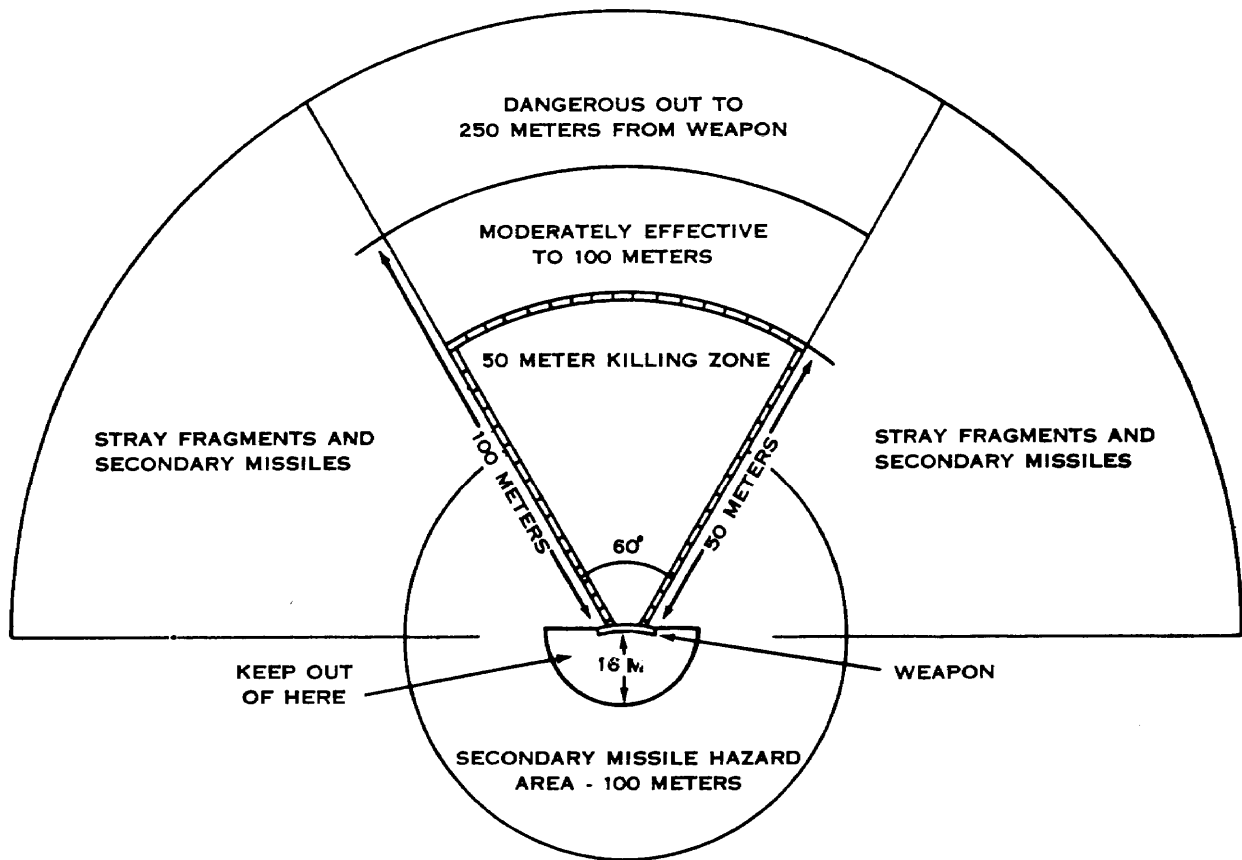

Figure 4. Danger radius and effects of the M18A1.
When detonated, the M18A1 mine will deliver spherical steel fragments over a 60° fan-shaped pattern that is 2 meters high and 50 meters wide at a range of 50 meters (fig. 4). These fragments are moderately effective up to a range of 100 meters and can travel up to 250 meters forward of the mine. The optimum effective range (the range at which the
*a. Danger From Fragments* (fig. 4). The danger area consists of a 180° fan with a radius of 250 meters centered in the direction of aim.
*b. Danger Area of Backblast and Secondary Missiles* (figs. 4 and 24). Within an area of 16 meters to the rear and sides of the mine, backblast can cause injury by concussion (ruptured eardrums) and create a secondary missile hazard.
- (1) Friendly troops are prohibited to the rear and sides of the mine within a radius of 16 meters.
- (2) The minimum safe operating distance from the mine is 16 meters. At this distance, and regardless of how the mine is employed, the operator should be in a foxhole, behind cover, or lying prone in a depression. The operator and all friendly troops within 100 meters of the mine must take cover to prevent being injured by flying secondary objects such as sticks, stones, and pebbles.